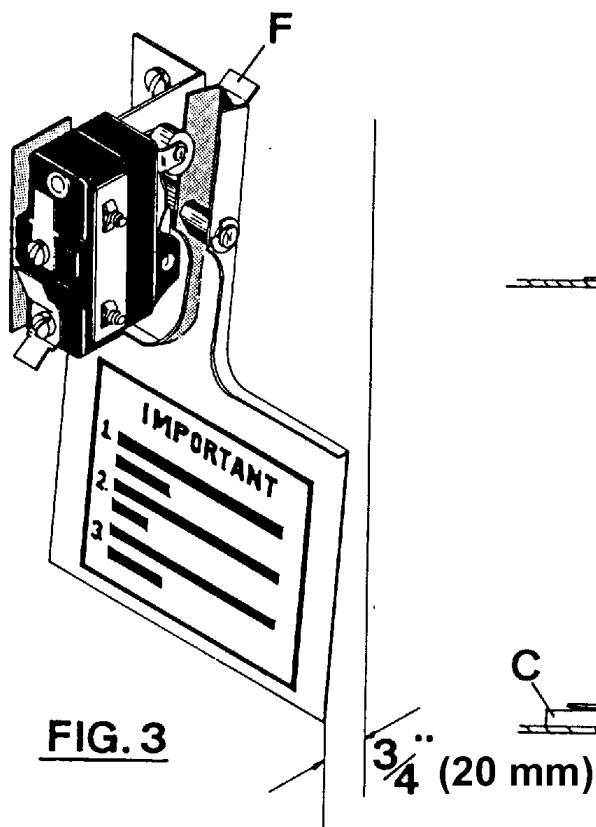

FIG. 1
2. Lay air switch assembly on flat surface. Adjust air blade at "A" (figure 1) so that air blade lays flat and surface "B" is parallel to the flat surface.